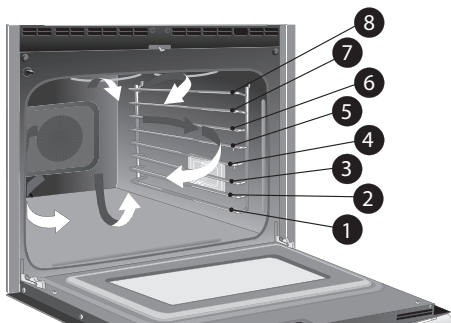
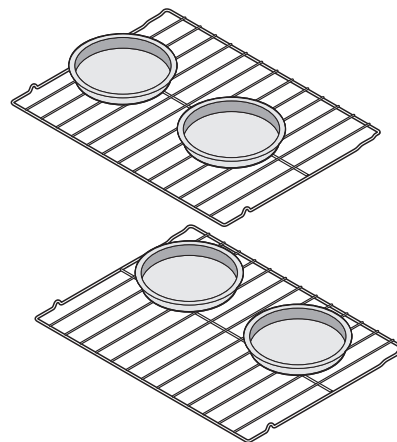

Figure 15: Rack positions and convection air flow
Figure 16: Pans spacing for convection baking
Convection bake uses a fan to circulate the oven heat throughout the oven cavity. The improved heat distribution allows for even cooking results. (Figure 15). Cooking with multiple racks may slightly increase cook times for some food types, but the overall result will be time saved. The fan will turn on 6 minutes after the oven begins heating.
- When using two racks for layer cakes, use glide racks in rack positions 5 and 2, or flat racks in positions 3 and 6 (Figure 15). Position cookware as shown in Figure 16.